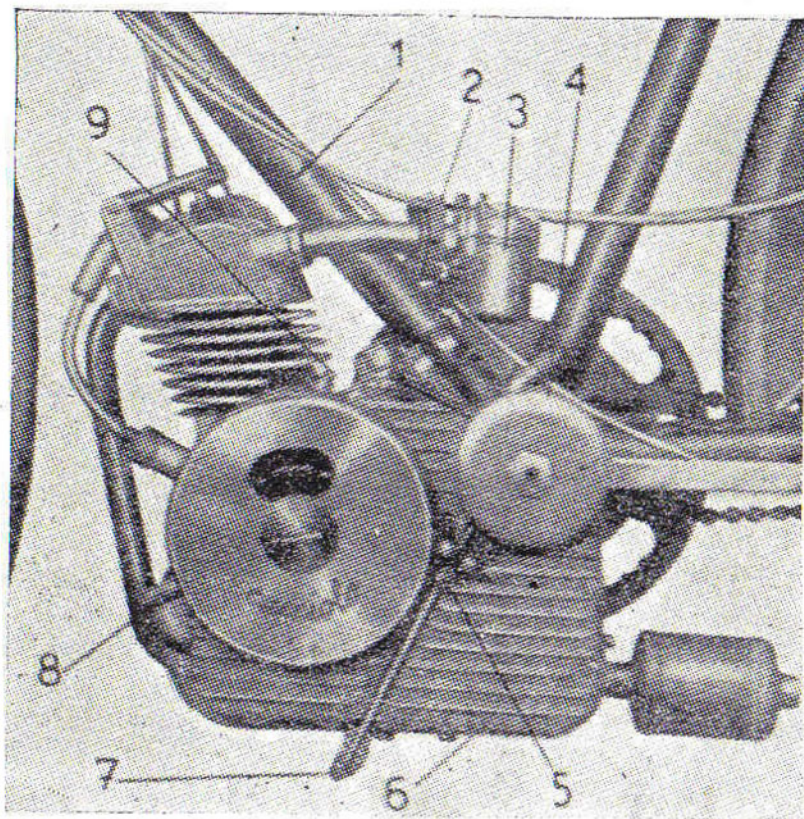
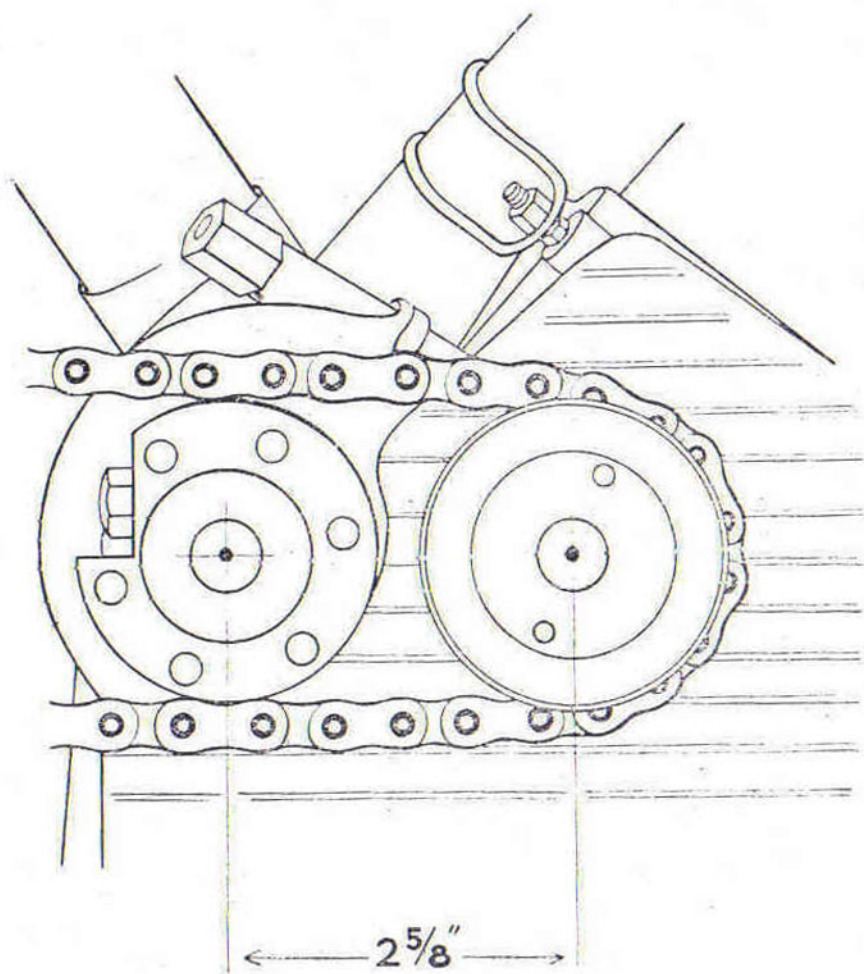

Fig. 3
Fig. 7
The motor unit should be fitted in order that the semi-circular recess (14) fits snugly on the lower part of the bottom bracket (4) and that the cradle (13) holds firmly to the bicycle main bar (also called front down bar). The recess (14) shall fit around the bottom bracket with packing placed between the crank-case and the bottom bracket, and at the cradle (13) — and two clamps (16) will fit around the top part of the bottom bracket and will be kept into position by the pin attaching the motor (15). Above, against the cradle (13) is fitted the clamp (17) which will close around the tube 1 (Figure 3). Attention must be given while tightening the clamps (the necessary spanner is supplied with the motor) that the valve operating rods of the motor shall not touch or be too near to the bicycle tube 1. (A clearance of $3/32$ " is sufficient.) If the clearance is not sufficient, an extra layer or two of red fibre or metal packing can be inserted at recess (13). Attention must also be paid to the distance between centre of the slip sprocket (see Fig. 7) (22) and the centre of the bottom bracket spindle, which is $2\ 5/8$ ". If distance is not correct either the inner teeth of the crank-wheel will engage too deeply into the slip sprocket
In order to synchronise the gear change it is necessary to free completely the screw which will register the clutch (5) (Figure 3). Assemble the lever of the change (24) on the clutch lever and fit the washer and split pin. Hold the change into neutral, with the left pedal down. Thread the Bowden wire into the eyelet of the clutch lever (7) and pull until the two contacting parts are about $3/32$ " from the preselector bell shaped cam. The Bowden wire should then be locked with the screw (7) (Fig. 3). The screw (5) is then registered to contact the clutch and locked by its locking nut. With the left pedal forward the low gear will automatically be engaged by actuating the clutch lever (the gear shifting pin (23) should be right in). With the left pedal down the gear change will cut back into neutral position. With the left pedal backwards (or correspondingly the right pedal forward), the top gear will become engaged. (The gear changing pin (23) will then be right out.) When either of the two gears are engaged the pedal must revolve backwards (or anti-clockwise) freely with the bell shaped cam selector (25) touching the gear changing lever (24). Should it be found necessary to register the automatic gear to have greater distance between the bell shaped gear selecting cam and the gear lever, it will be sufficient to insert between the gear selecting cam of the pedal axle a suitable washer in order that the internal part of the bell shaped gear selecting cam (25) shall always be well "shouldered" to the pedal crank.
- (d) **Electric current** (a.c.) at 6 volts is generated by the lighting coil of the flywheel magneto when the engine is running. The bicycle headlight wire should be secured to the lug screwed on the insulated terminal (9) (Figure 3). Check that engine is in good electrical contact with the bicycle frame, also the headlight bracket. About twelve watts are available from the flywheel generator, sufficient for bright headlight and tail light illumination. As electric current will be always available when the engine is running, provision for a switch must be made in the headlamp electrical circuit.
As the position of the oil filling plug has been specially designed for correct oil level, subsequent topping up of the oil level is extremely simple. Never let the level fall below $3/8$ " of the normal; check this every 150-200 miles (as long as the motor does not lose oil). In any case after the first 150-200 miles and then every 500/700 miles, the oil should be completely drained and new oil put in. Drainage is effected by **unscrewing** the plug (6) (Figure 3) under the crank case with the tube spanner, supplied with the tool kit. To obtain a full drainage, this operation should preferably be done whilst engine is warm.
OPERATION OF THE GEARS. From what has been said before, the automatic operation of the pre-selector is already evident; the single clutch-control (7) (Figure 3) with the same movement which will disengage the motor from the power-transmission, will actuate simultaneously and automatically also the change of the gears, without the necessity of a separate gear lever.